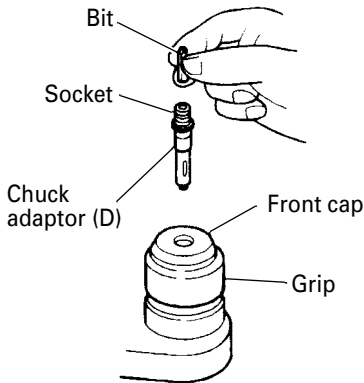

Fig. 15
4. When driving machine screws (Fig. 15)
- (1) Mount the bull point or cold chisel.
6. When driving wood screws (Fig. 15)